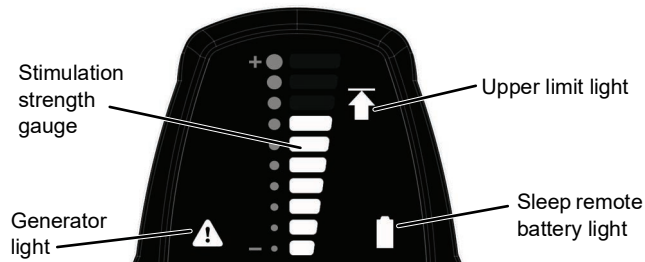

Figure 3. Sleep remote back view
- Turn the remote over and confirm the generator light as shown in Figure 3 is NOT illuminated. If the generator light is illuminated, DO NOT scan the patient. Refer the patient to their sleep physician to resolve the issue with their implant.